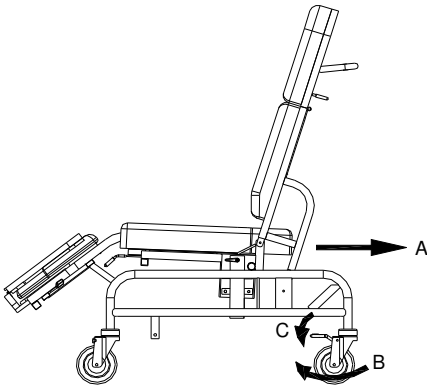

Figure 1
To facilitate the upending of the chair, back the chair up a few centimetres (A) to turn the wheels towards the front (B), apply the brakes (C), see figure 1.